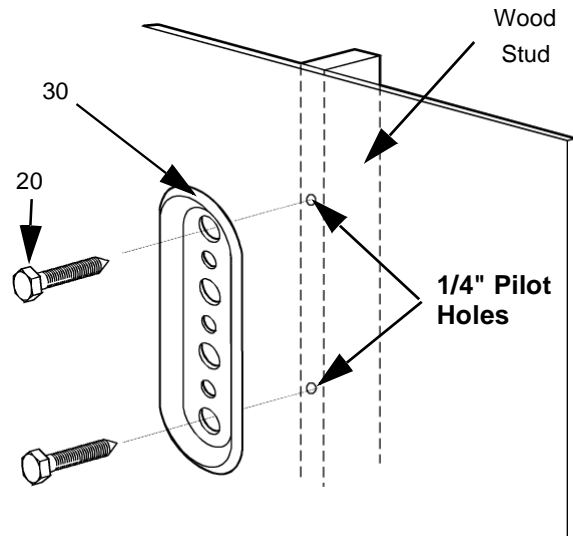

Figure 2: Secure Wall Bracket
2. Using the wall bracket (30) as a template, mark the two pilot holes for mounting the wall bracket. (see figure 2)